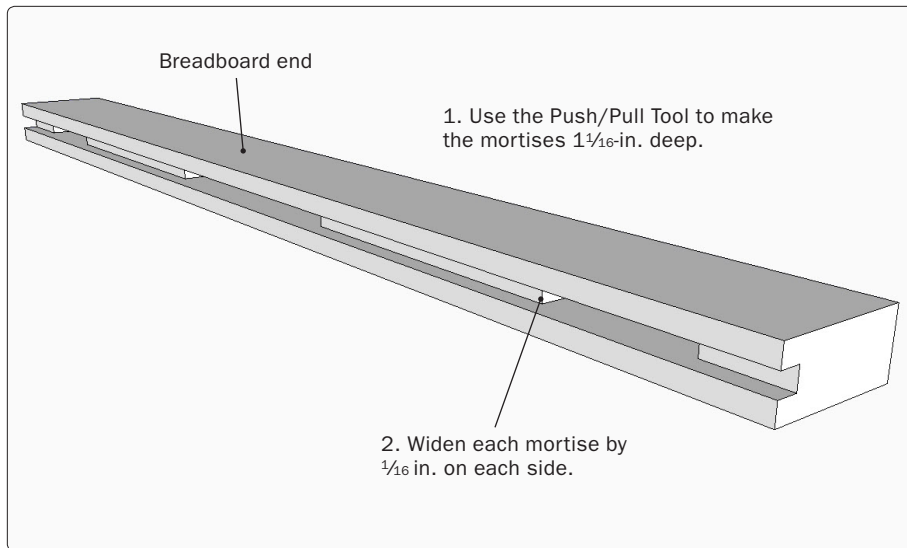

Figure 43. Work on a copy of the breadboard end to create the mortises.
Step 39 Make a copy of the breadboard and move it away from the other components. Use the Push/Pull Tool to make the mortises the proper depth. Extend the width of the two end mortises $\frac{1}{16}$ in. on each side to allow for expansion and contraction of the tabletop within the breadboard (Figure 43). When you've finished, delete this copy.